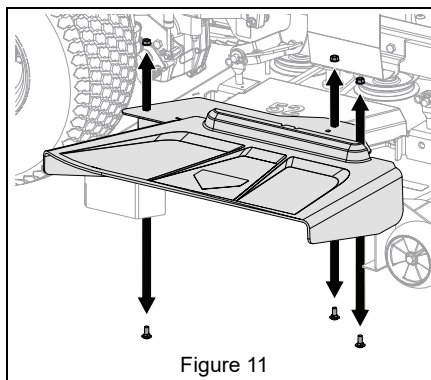

Figure 11
1. Remove three 5/16" round head square neck bolts and three 5/16" nuts securing discharge chute and plate to deck. Retain chute, plate and hardware for operation without bagger. See Figure 11.